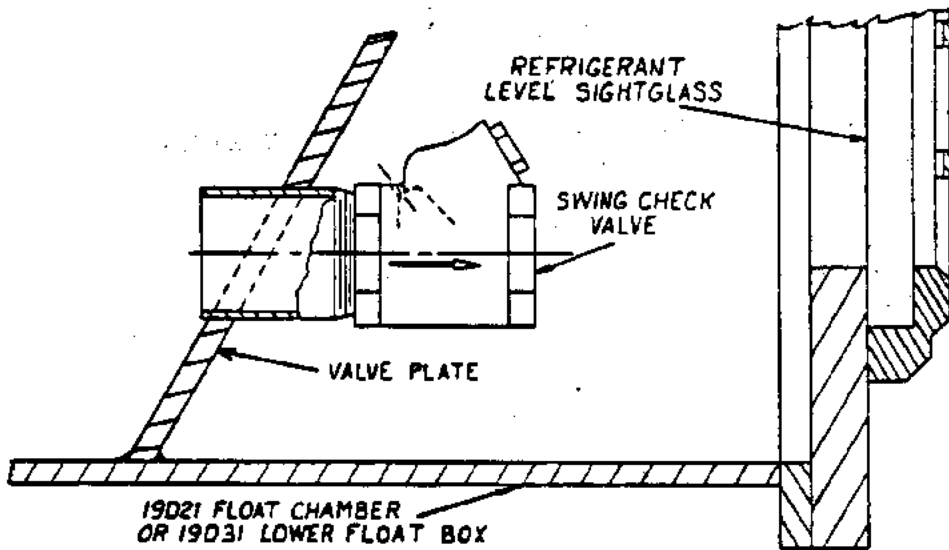

Fig. 1
- A. Equalizing Valve. Machines shipped after March 1, 1965 (approximate unishell Serial No. 25780 and higher) have a newly designed equalizing valve in the float chambers (Fig. 1.) When exposed to refrigerant, the earlier neoprene design could possibly curl, keeping the valve partially open during machine operation.